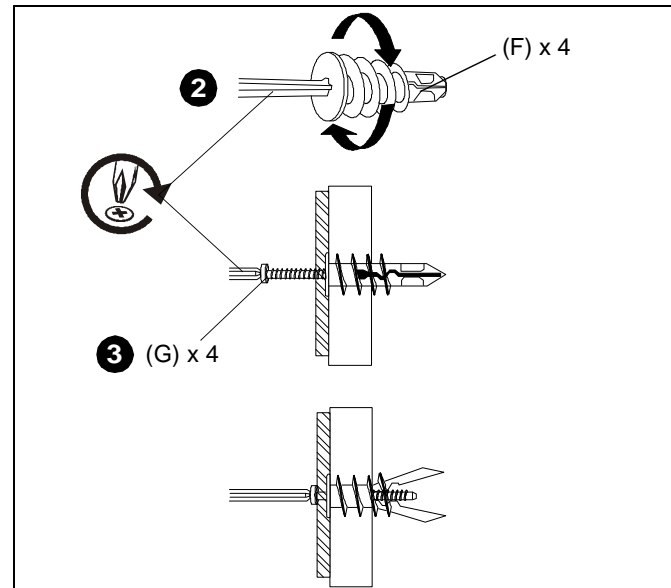

Figure 3
2. Install anchors (F) into wall at marked locations using a Phillips screwdriver. (See Figure 3)